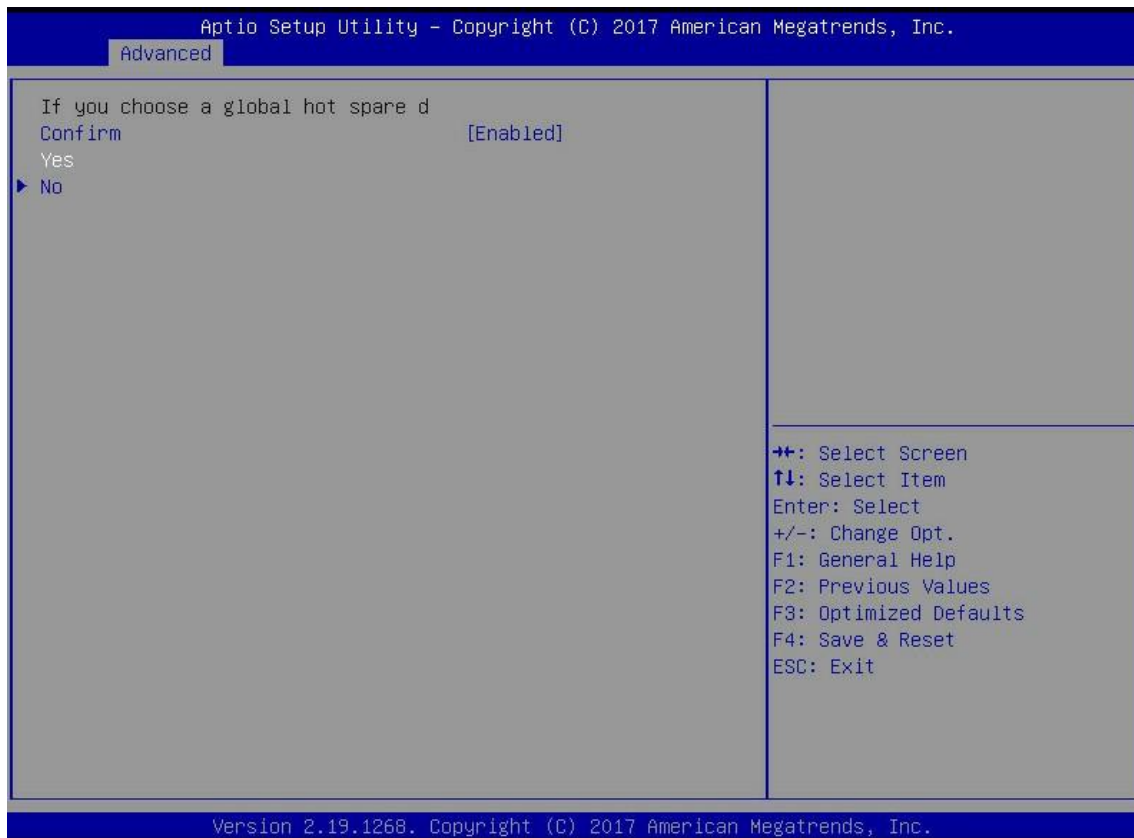

Figure 6-23
- e) Enter the interface shown in Figure 6-23, select confirm to enable it, select Yes, and press enter.